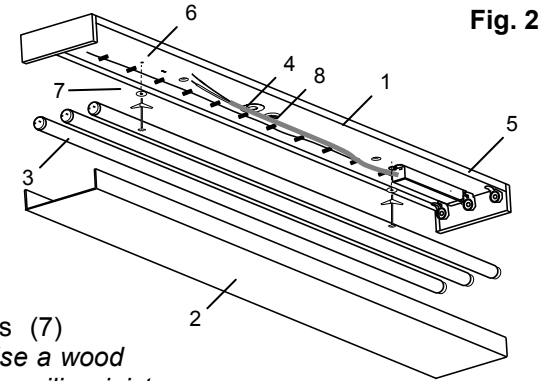

Fig. 2
3. Punch out the center knockout (4) using a flathead screwdriver. Use pliers to remove the knockout (4) from the fixture channel (1). **(Fig. 2)**
1. Place the fixture channel (1) flush against the ceiling surface. Be sure to center the knockout hole (4) over the electrical outlet box or ceiling opening for the supply wiring. Mark the location of the fixture mounting holes (6).
2. Drill 1/4" holes at the marked locations. **(Fig. 2)** *Note: If a ceiling joist is encountered during drilling, do not continue. Use a 2" - #8 wood screw (not in-*
3. Place the fixture channel (1) over the outlet box or ceiling opening. Pull the supply wires through the knockout hole (4). Place the fixture flush against the ceiling. Secure the fixture channel (1) to the ceiling using 1/8" x 3" toggle bolts and 1" diameter washers (7) (not included). **(Fig. 2)** *Note: Use a wood screw / washer combination if a ceiling joist was encountered in Step 2.*
5. Connect the supply ground wire to the fixture ground screw (8). **(Fig. 2 & 3)**
6. Install the fluorescent lamps (3). Slide the fluorescent lamp pins (3) on each side of each lamp into the center slots of opposing lamp socket (5). Twist each lamp (3) a quarter turn until it snaps into place. **(Fig. 2)** *Note: Install the lamp types and sizes that are indicated on the lamp replacement label. Do not exceed the wattage specifications indicated on the same label.*